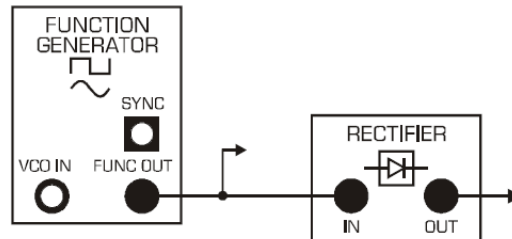

Figure 2-2 Diagram of “Rectifying” System
3. Connect the FUNC OUT terminal of the FUNCTION GENERATOR to the RECTIFIER input. Connect CH0 to this input. Connect CH1 to the RECTIFIER output, as per Figure 2-2. The settings required are as follows: